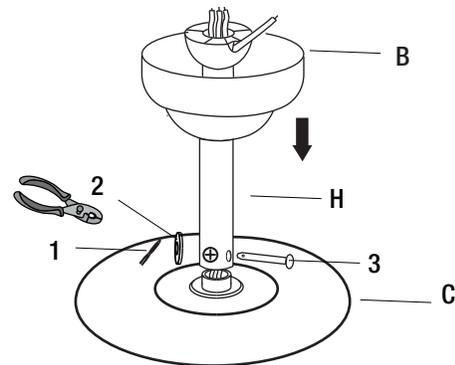

Figure 4
- Remove the split pin (1), washer (2) and pivot pin (3) from the downrod assembly (H) and set them aside for later restoration.
- Place the downrod assembly (H) through the ceiling canopy (B) and insert the motor wires through the downrod assembly (Figure 4).